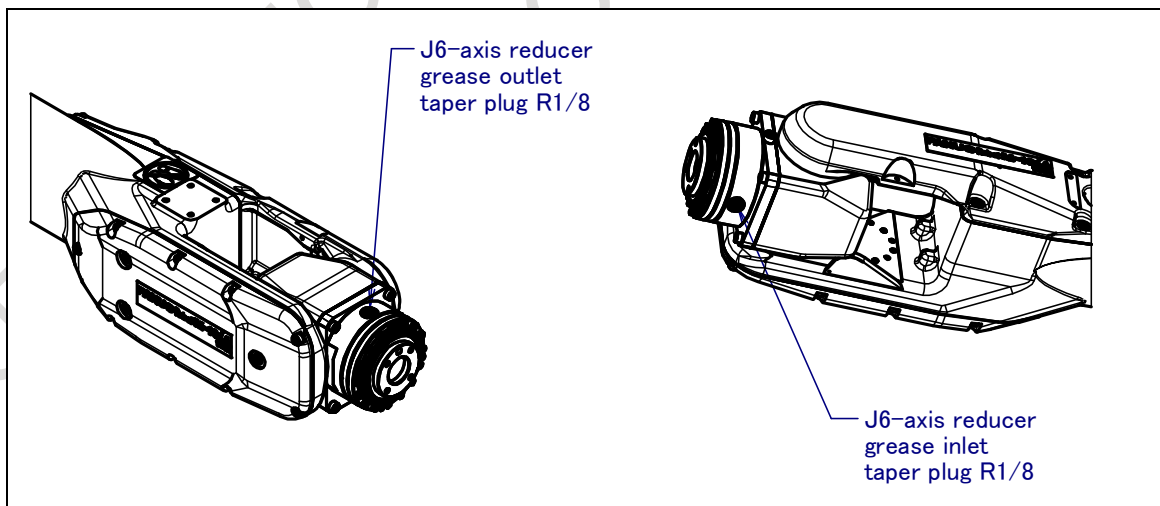

Fig. 4.2 (a) J6-axis grease supply position
- ii) See Fig. 4.2 (a) and Table 4.2 (a) for greasing points and the method.